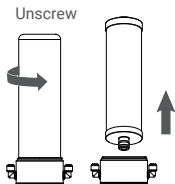

Figure 7
2. Unscrew the housing and pull out the old filter cartridge. (Figure 7)